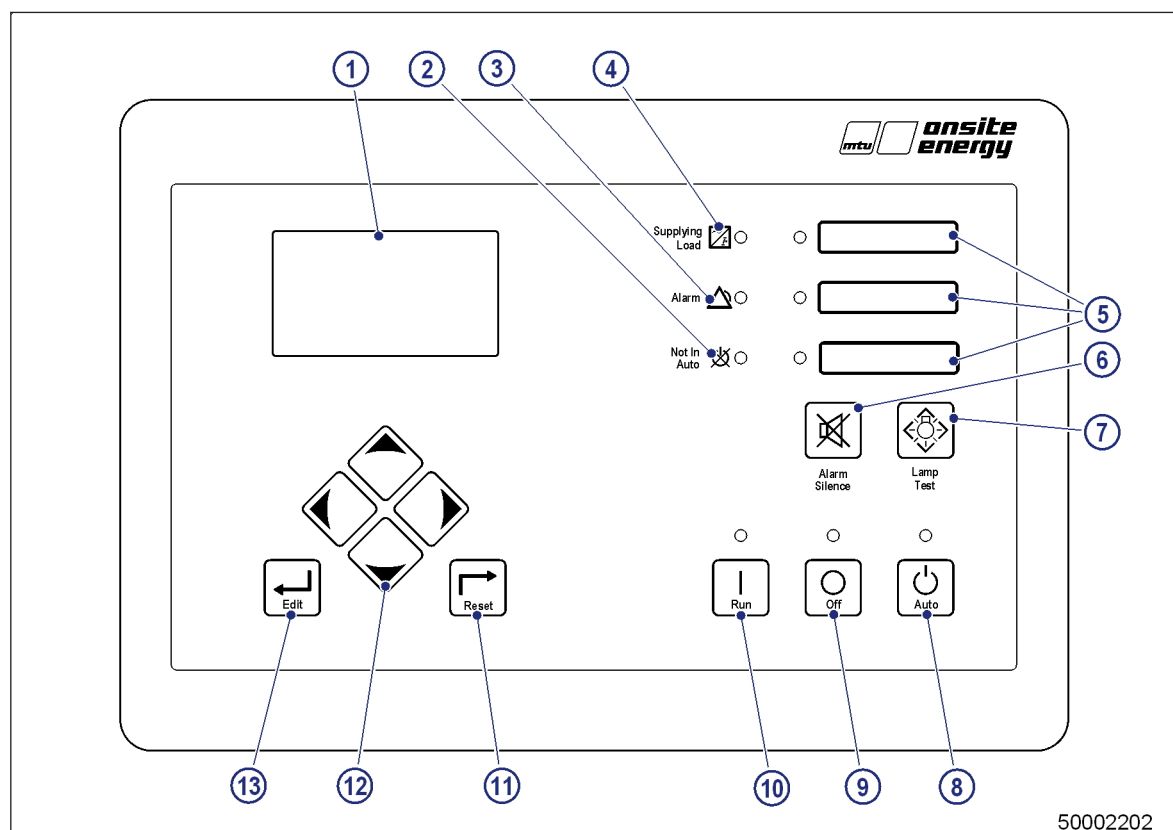

Figure 10: Control panel with MGC-3000 Series – Controls and indicators
The wide temperature-range LCD with backlighting can be viewed under a wide range of ambient light and temperature conditions. The figure (→ Figure 10) shows the display of the MGC-3000 Series in detail.
* Numbers correspond to (→ Figure 10).